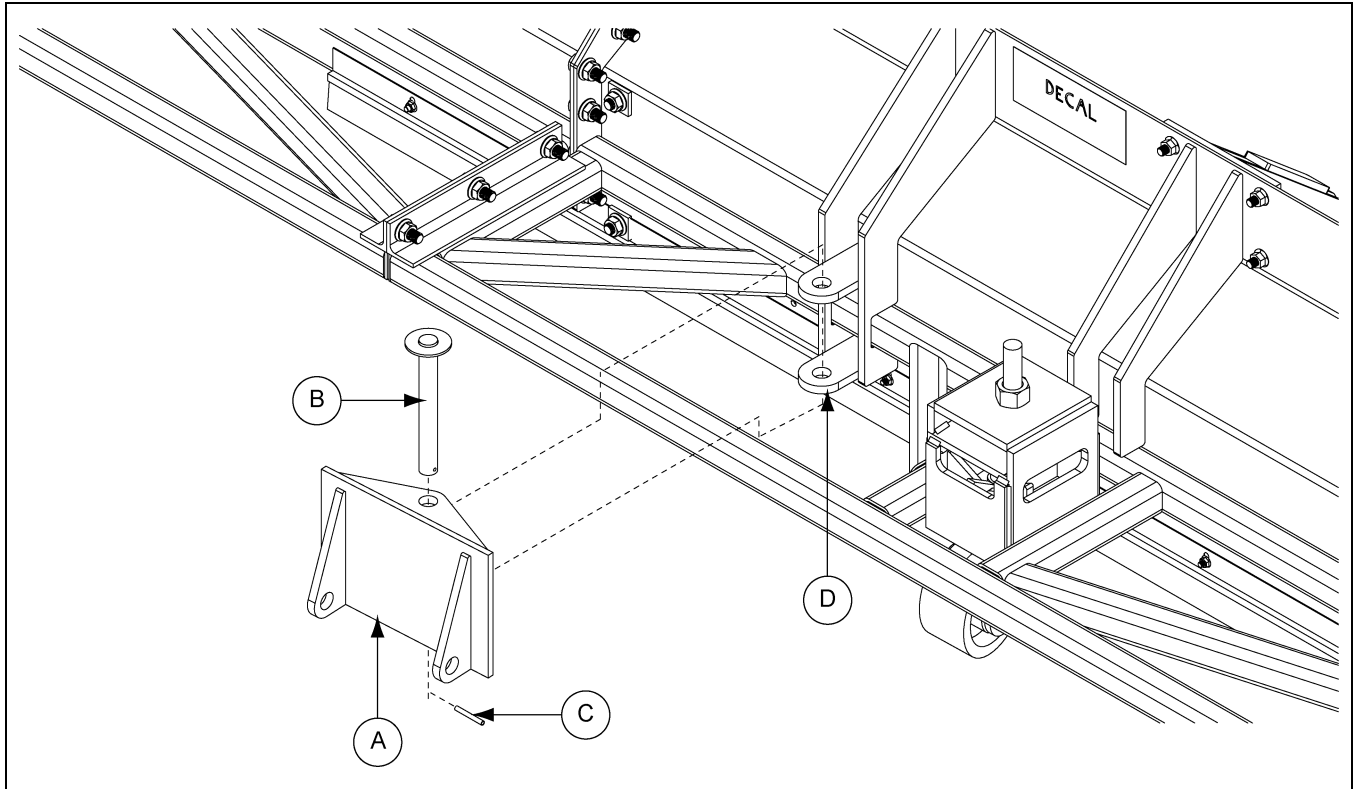

Figure 8A
1. Position the vertical/horizontal pivot plate (A) onto the sweep shield (D) as shown. (See Figure 8A.)
2. Align the holes on the vertical/horizontal pivot plate (A) with the sweep shield (D) and install the vertical pivot pin (B).
3. Locate the hole near the bottom of the vertical pivot pin (B) and install the slotted roll pin (C), securing the vertical/horizontal pivot plate (A) to the sweep shield (D).